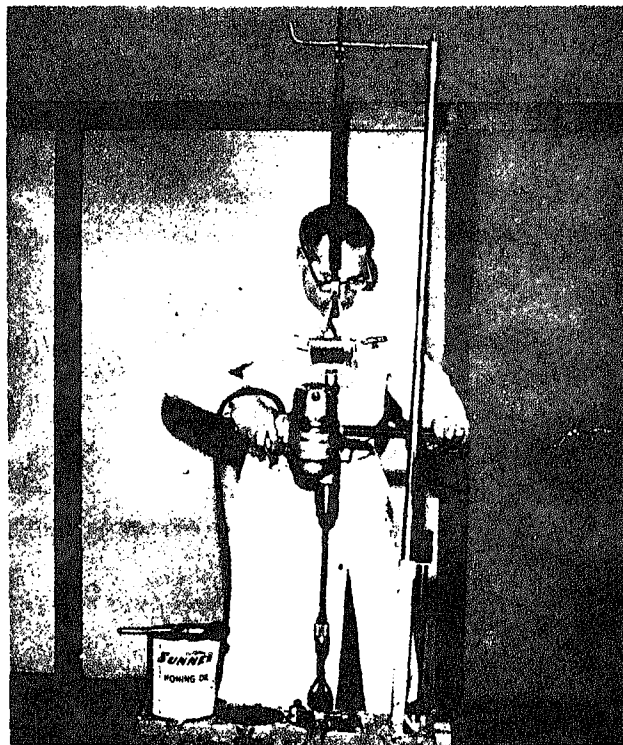

Fig. 1-2-3. Honing liner
5. Place a Quick Coupler, securely in drill chuck, Fig. 1-2-3.